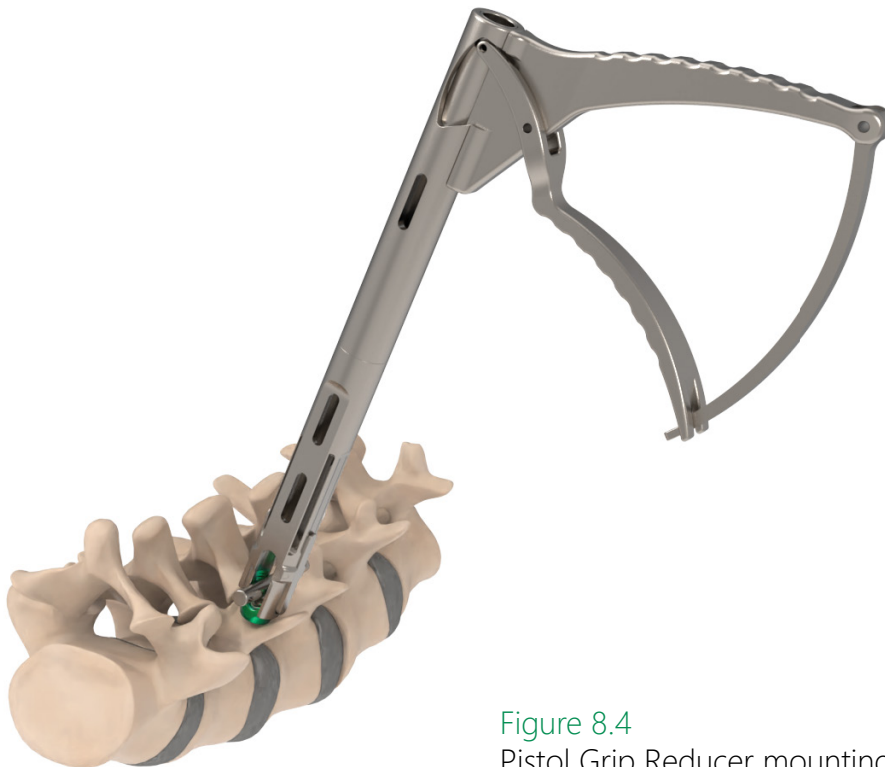

Figure 8.4
3. Assemble Pistol Grip Reducer to screw by placing the reducer squarely over the Housing and pushing it down until it is completely over the Housing. Align the distal open slot with the slot in the Housing (Figure 8.4).